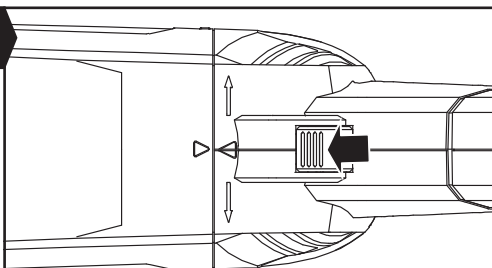

Fig. D1
3. ADJUST THE REAR HANDLE ANGLE (See Fig. D1, D2)